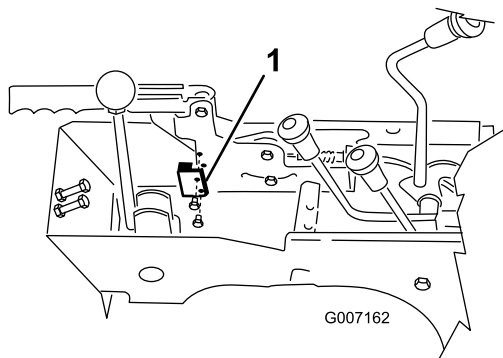

Figure 11
1. Mount the parking brake switch to the parking brake mount with two screws as shown in Figure 11.